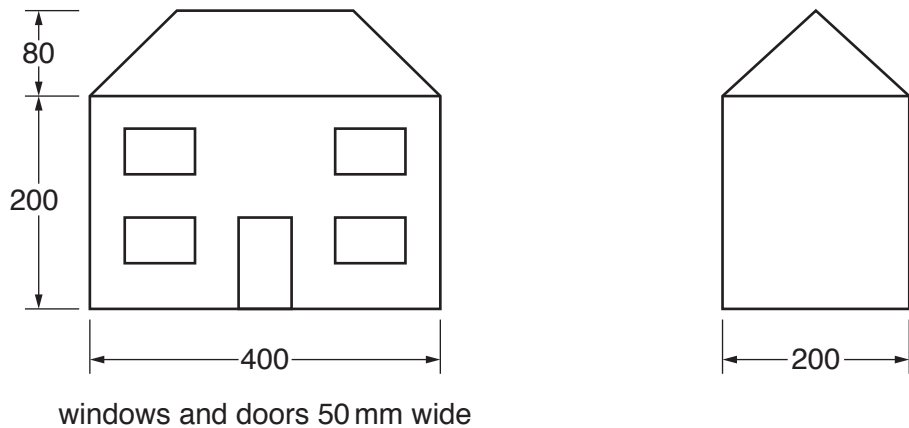

Fig. 2.1
- 2 Fig. 2.1 shows a toy house that is made from card, which is to be produced in a school workshop.